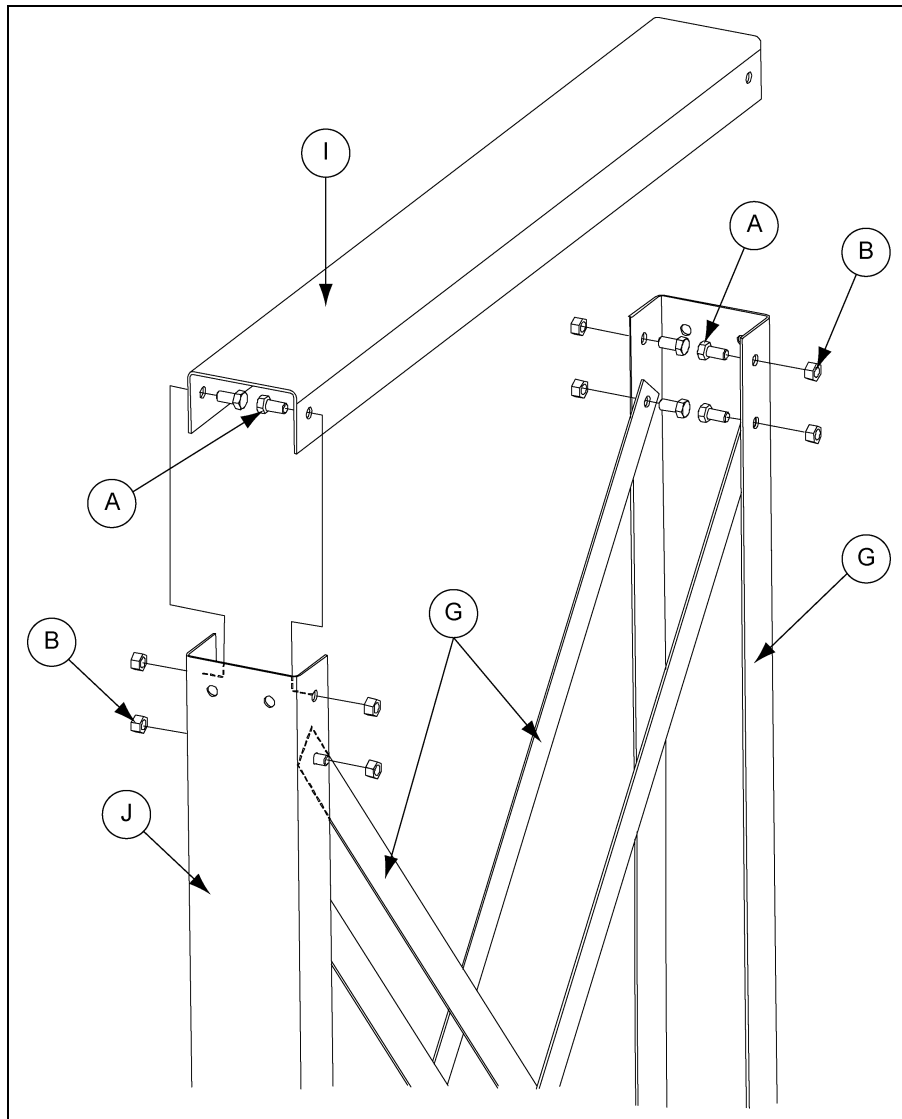

Figure 2R
6. Install an “H” channel brace (**STC00350**) to the top of the columns and “X” bracing as shown using four (4) 1/2" x 1" HHCS bolts and nuts. (See Figure 2R.)